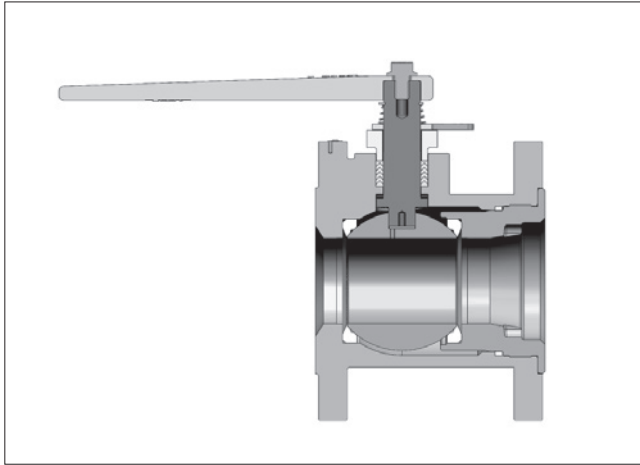

Figure 2.
6. Insert the stem (5) with the bearings into the valve body and through the stem bore in the body, as shown in (**Figure 2**). Press it gently up into the stem bore until resistance is felt from the lower stem bearing. Be careful not to scratch or damage the seals.
17. Install handle (31) on the stem (5), matching flats on the stem and handle. The handle should be in the orientation as shown in **Figure 2**. Thread handle screw
18. (35) through the handle into the stem and tighten. Cycle the valve slowly with a gentle back and forth motion to build gradually to the full quarter turn. A fast turning motion at this point may cut the seats before they have a chance to form the proper seal.